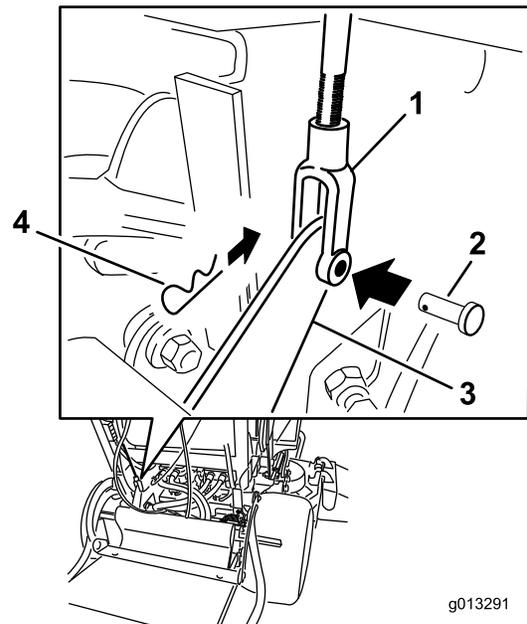

Figure 64
4. To adjust the brake, remove clevis pin and hairpin cotter pin from the lower brake lever and yoke (Figure 64).
7. Secure the yoke to lower brake lever with the clevis pin and hairpin cotter pin (Figure 64).